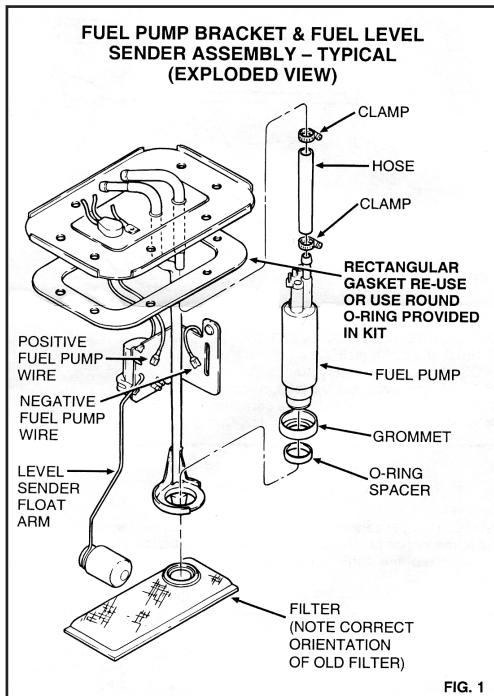

FIG. 1
- 1) Insert the new pump inlet into the rubber grommet supplied in the installation kit. Next, slip the o-ring spacer supplied in the kit onto the inlet of the pump, (See Fig. 1).
Install the pump bracket into the fuel tank, using the new o-ring tank seal for brackets with a round top, or re-use the rectangular gasket for brackets with a rectangular top, (See Fig. 1).